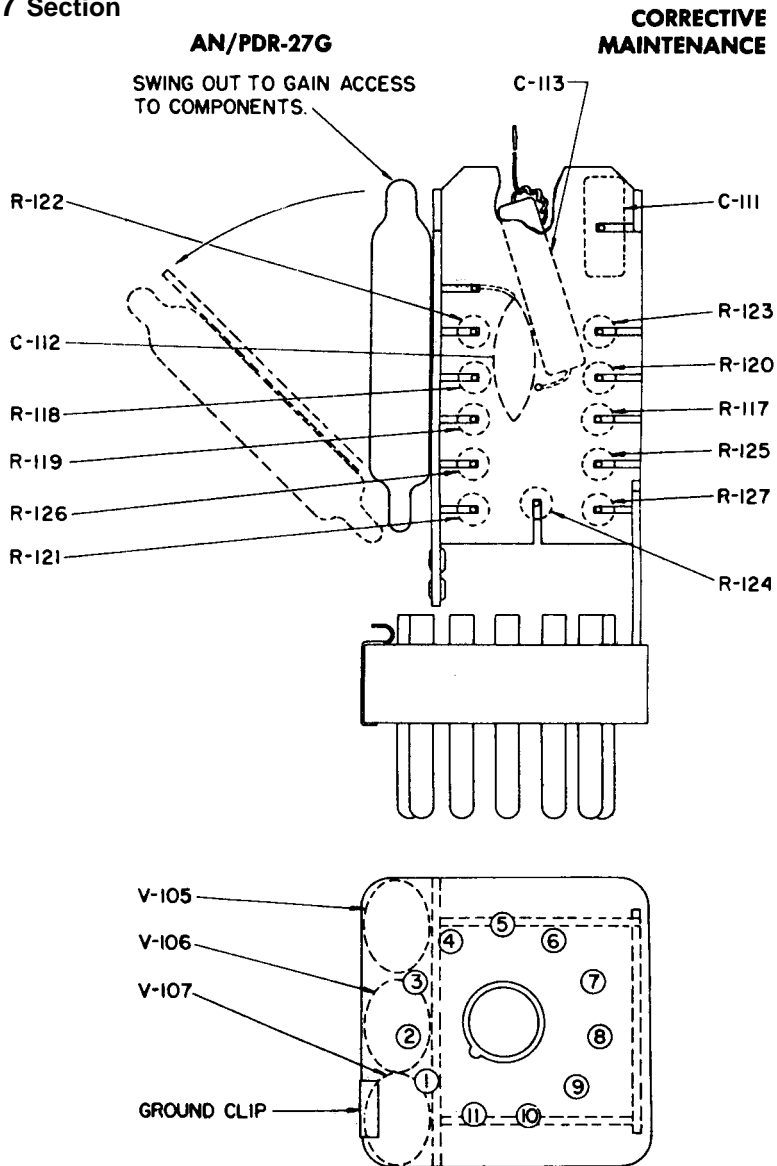

Figure 7-8. Trigger Amplifier Z-101, Internal Components Layout
- Step 6. To gain access to the innermost parts of the assembly, pull the side pieces of the assembly out of their slots; all components are then accessible for replacement if necessary (See fig. 7-8).
- Step 2. Connect a piece of #20 gauge solid tinned bus wire approximately 4 inches long to the projecting lead of C113 (See figures 7-8 and 7-9). Bend the soldered joint carefully in the manner shown in figure 7-8.